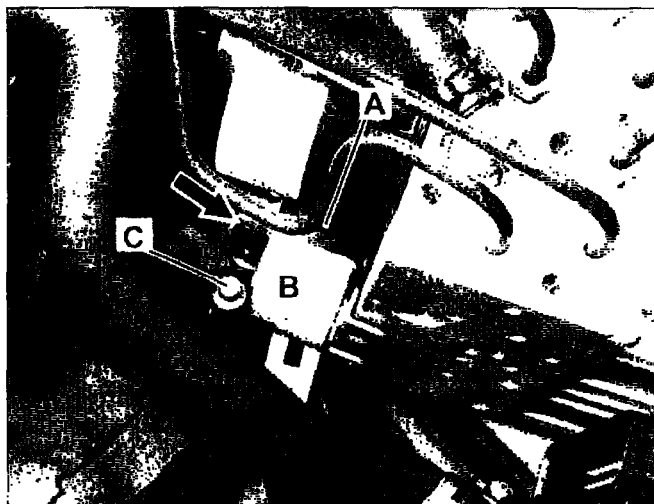

Figure 19
(B, Figure 19):
- Position mounting bracket (B) onto SBC hydraulic unit (A) as shown in Figure 19.